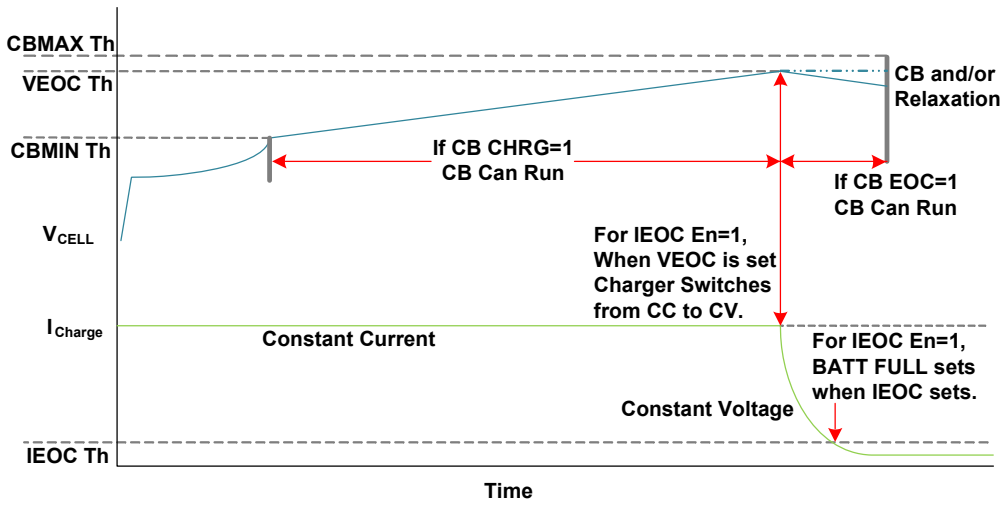

Figure 108. A Typical Charge Characteristic Curve
The ISL94216 has features that support both Constant Current (CC) and Constant Voltage (CV) charging. A typical charging profile for a battery cell is depicted in Figure 108. Cell balancing can occur only when the cell voltage is between the  $CBMIN$  and  $CBMAX$  limits, which are independent of  $CB EOC$  and  $CB CHRG$  bit settings.